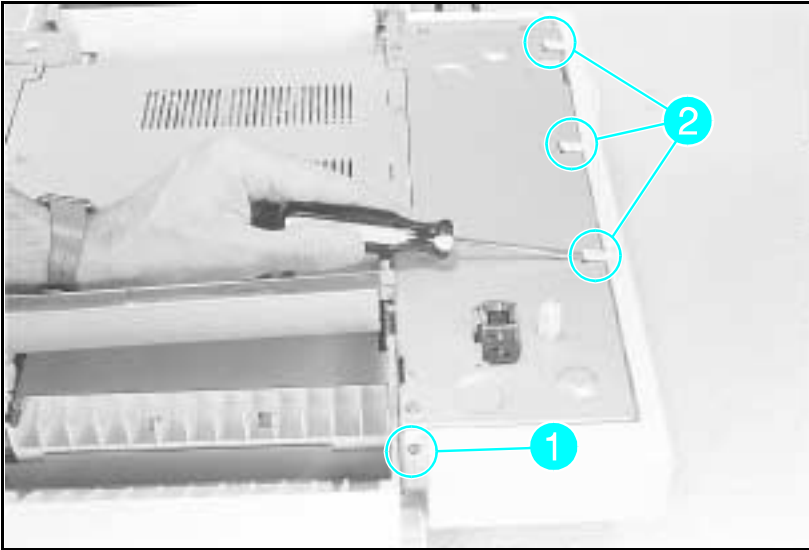

Figure A-6 **Side Cover**
- 2** Remove the (1) screw shown in Figure A-6, callout 1.
- 3** Release the (3) latch points with a flat screwdriver and rotate the cover downward (see Figure A-6, callout 2).